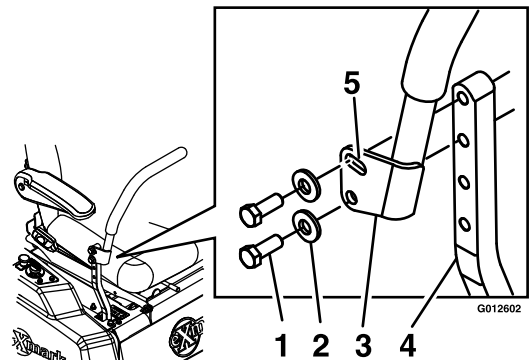

Figure 27
1. Remove the hardware holding the control lever to the control arm shaft (Figure 27).
2. Loosen the lower bolt just enough to pivot the control lever fore or aft Figure 27. Tighten both bolts to secure the control in the new position.